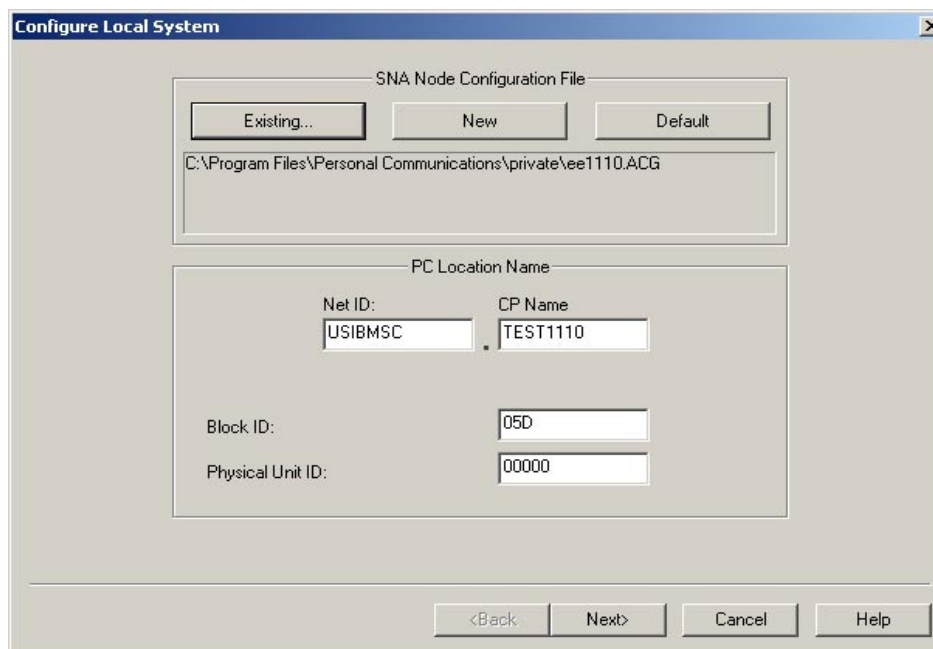

Figure 10-5 Configure Local System step 2
2. We entered our Net ID and added a CP Name, Block ID and Physical ID and clicked **Next** (see Figure 10-5).